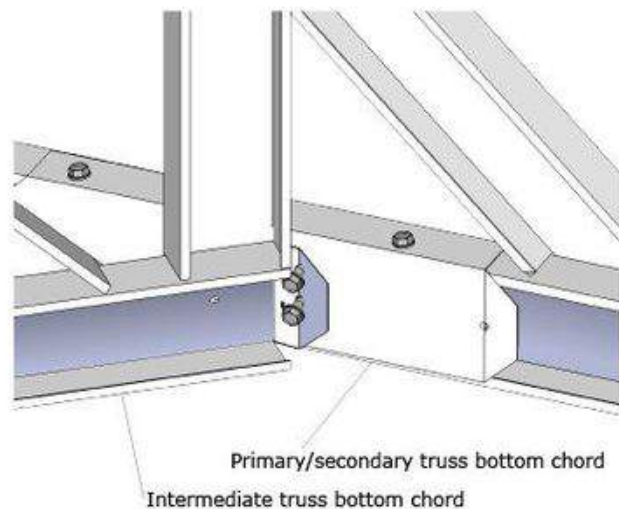

Figure 7.30d(i) Connection between primary and intermediate truss (Top Chord) and intermediate truss (Top Chord)
STEP 9: Lift the remaining intermediate trusses into their required position and use the same tie down fixing on the wall frame as per the secondary trusses. Where these intermediate trusses join to the primary trusses ensure that some partial boxing plate is added (to the open side of the primary truss) and fixed with 4x12-14x20 hex head fasteners through the flanges towards the ends of this piece. These intermediate trusses have an extension to the top chord that will manually need to be bent to fix to the primary truss as this area. This bent tab is attached with 2x2-14x20 fasteners through this top chord extension into the top chord of the oncoming truss. The bottom chord also is extended of this intermediate truss and follows the same partially boxing method as just described. Refer to figures 7.30d(i) and 7.30d(ii).